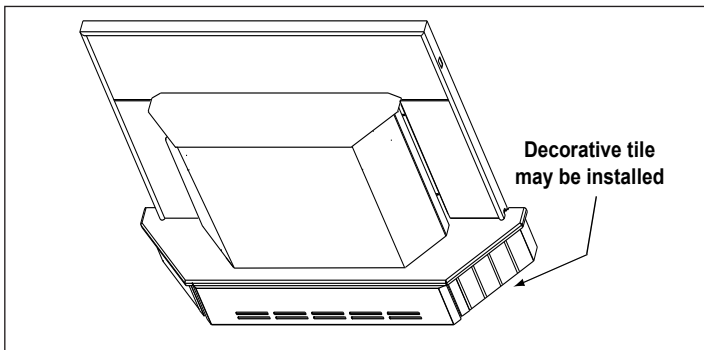

Figure 24.3
3. Measure front and side trims to required height to cover scissors and mark pieces for cutting. Cut excess material from **top** of trims edge, not bottom. This edge will be sharp; wear gloves to prevent injury to your hands. **Figure 24.3 on page 24.**
NOTE: 3/8 inch (9.5mm) thick tile or like material can be cut to size and fit under lip of top trim edge for a decorative touch. **Figure 24.3 on page 24.**